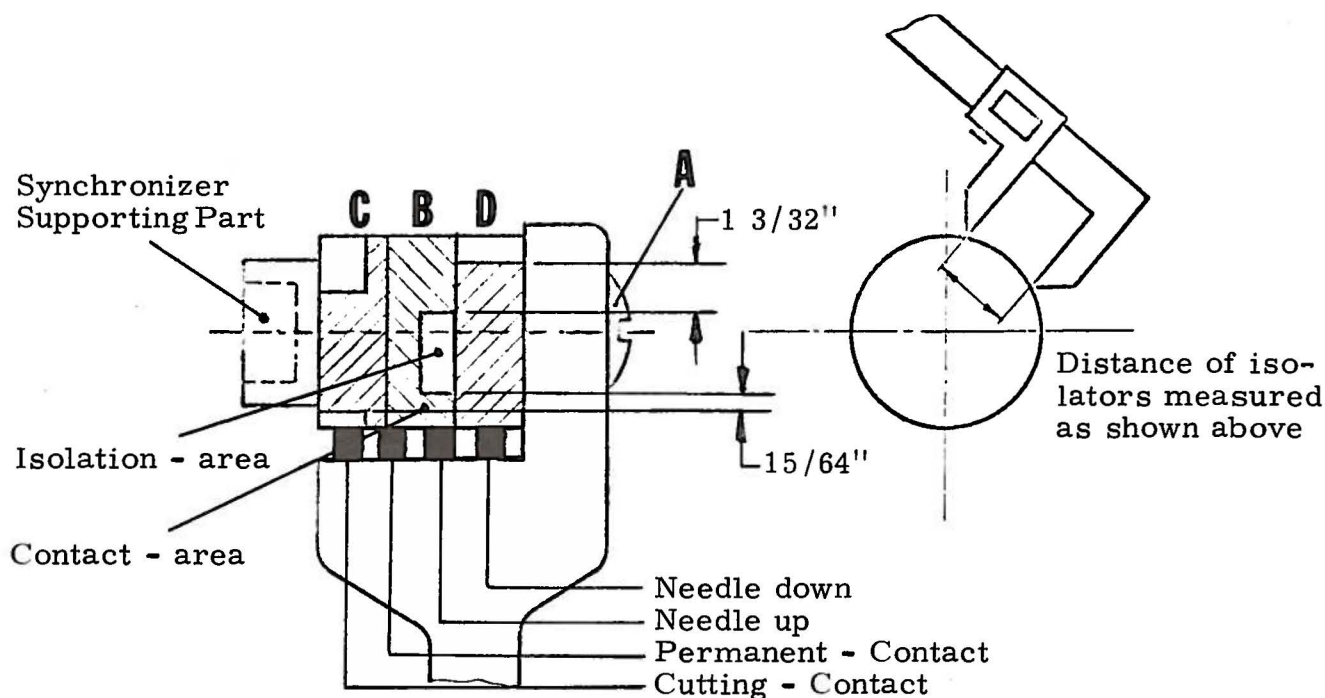

Fig. 17
1. Loosen screw (A, Fig. 17) and rotate band (B) to position the beginning of its insulated area $\frac{15}{64}$ inch from the end of the insulated area of band (C).
2. While retaining this position, rotate band (D) to position the beginning of its insulated area $1 \frac{3}{32}$ inch from the end of the insulated area of band (B).
3. Retighten screw (A) noting that these dimensions are to be set by cord measurements (See Fig. 17).
The needle bar should stop about .020 inch before reaching its lowest point of travel. If adjustment is required, loosen screw (A, Fig. 17) and while holding band (B) constant rotate band (D) slightly, to attain desired conditions, retighten screw (A).